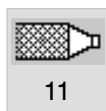

Fig. 4-45 No group
2. Touch the channel key repeatedly until the colored frame around the key and the group letter under the channel symbol disappear. Refer to Fig. 4-45.